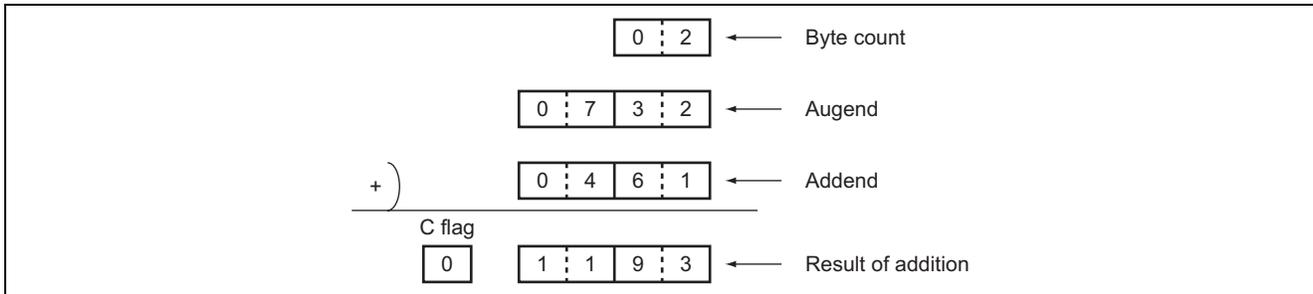

Figure 3 Example of Addition with Upper Bits Unused
1. When the upper bits are not used (see figure3), set them to 0. The software ADDD2 performs byte-based addition; when 0 are not set in the unused upper bits, a correct result cannot be obtained because the addition is done on the numbers including indeterminate data.